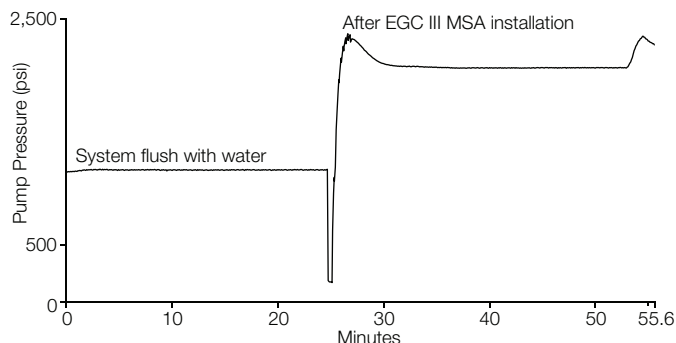

Figure 5. Baseline monitoring (pump pressure) for cation system.
5. After flushing the system for 20 – 30 min, install the Dionex EGC Eluent Generator Cartridge (if needed) and flush with starting eluent concentration for another 30 min. Figure 5 shows the pump pressure monitoring for the system during the installation of the EGC.